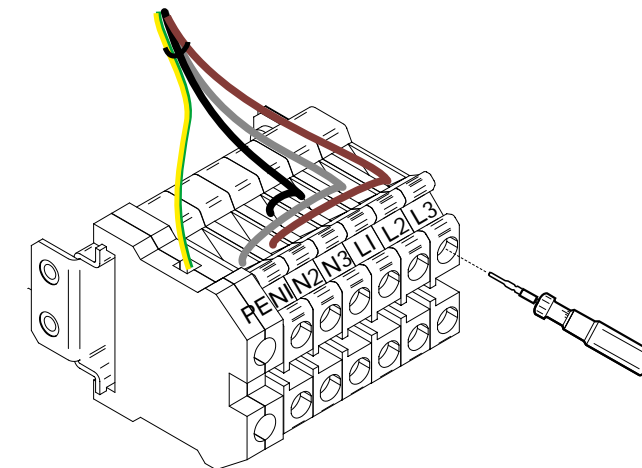

**Figure 4-11 AC Cable Connection (3W+N+PE)**
- 3-phase 110/190VAC or 230/400VAC (Figure 4-11).